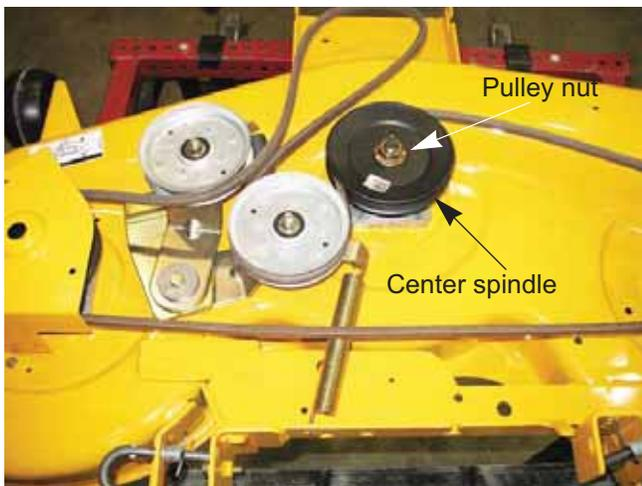

Figure 8.15
**NOTE:** On 3-bladed decks, the center spindle pulley can be removed at this point using an impact wrench with a 15/16" socket to remove the pulley nut. See Figure 8.15.